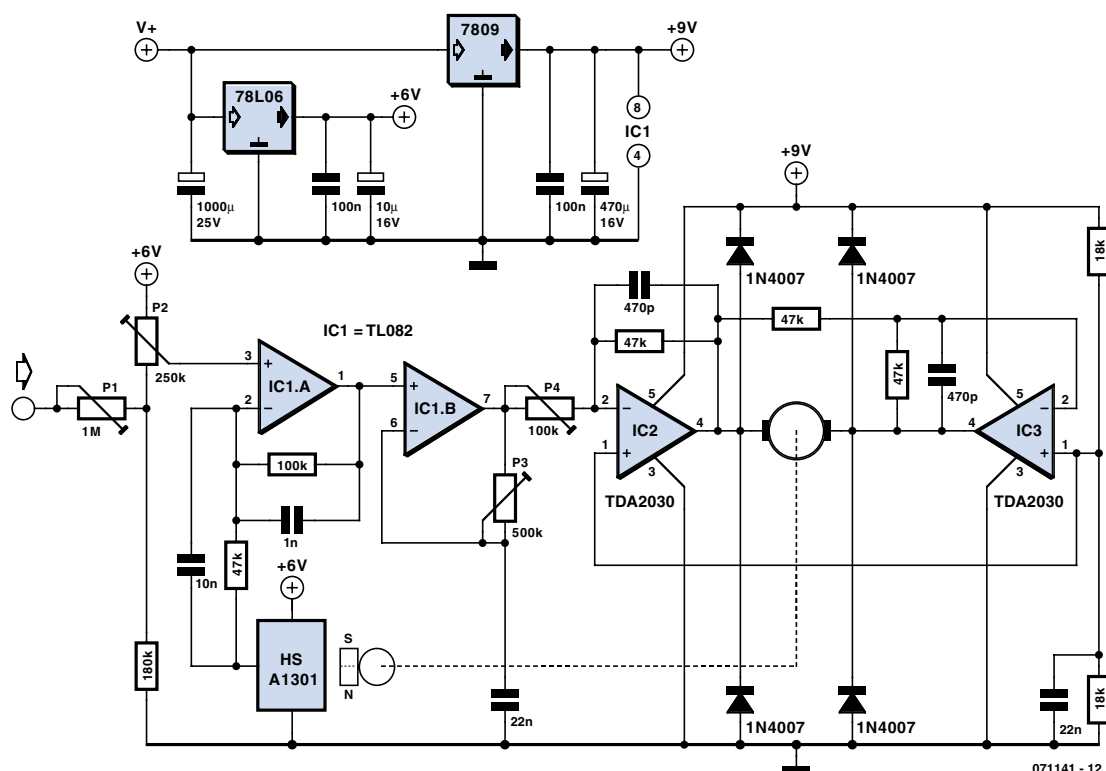

Figure 3. Each servo motor is controlled by this circuit. The input is therefore connected to the X-servo and Y-servo outputs of the main schematic (Figure 1).
The electronics for the servo drive can be kept quite simple (see **Figure 3**). P1 is used to set the input signal sensitivity and determines the maximum projection format. P2 sets a DC-offset, which is used to move the projection image a little, for example. IC1a amplifies the difference between the signal from the magnet sensor and the input signal. When this difference is positive, the motor turns in the opposite direction compared to when this signal is negative. In this way a closed loop is created which is necessary for controlling the servo. IC1b is a proportional-differential (PD) amplifier. This is indispensable to correct the phase of the feedback loop.